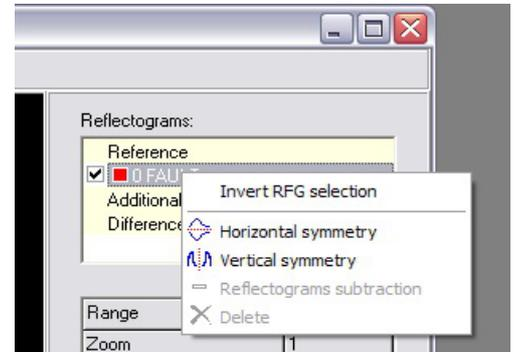

Fig. 5.5 The contextual menu of the reflectogram-plot
- To select plot. At click by the right button of the mouse on the plot name arises the contextual menu (Fig. 5.5) in which various commands are accessible. At a choice of uppermost of them the plot is selected. It becomes visually – the thickness of the plot increases also its name is selected with a bold font. The same operation of selection can be carried out clicked the left button of the mouse on the plot being in area of the increased viewing. Only one plot can be selected simultaneously, i. e. selection from other to take down.